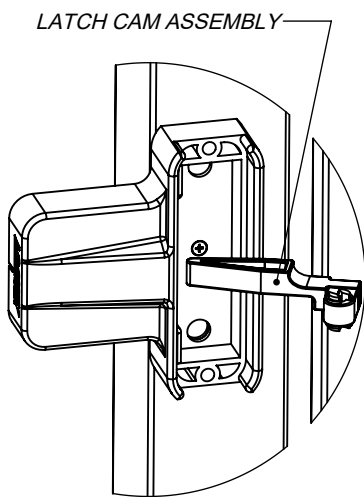
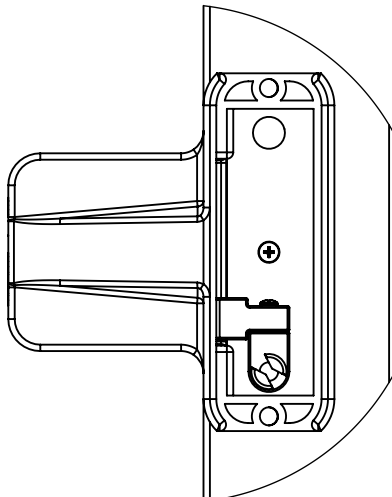

Figure 8
Figure 9
2) Insert the Latch Cam Assembly into the Adapter Housing. With the Latch Cam Assembly turned on it's side, with the bottom towards you, insert the lever portion into the Adapter Housing at the centerline (Figure 8). Once the Latch Cam Assembly has been properly inserted, turn the bottom side down, and place it so that the rim of the Latch Cam Assembly spindle hole properly fits into the spindle hole of the Adapter Housing (Figure 9). You should be able to rotate the Latch Cam Assembly up and down using your fingers.